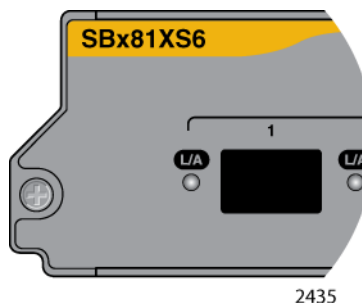

Figure 22. SFP+ Slot LEDs on the AT-SBx81XS6 Line Card
**LEDs** The AT-SBx81XS6 Line Card has one LED for each SFP+ slot. The LED is shown in Figure 22 and described in Table 11 on page 47.